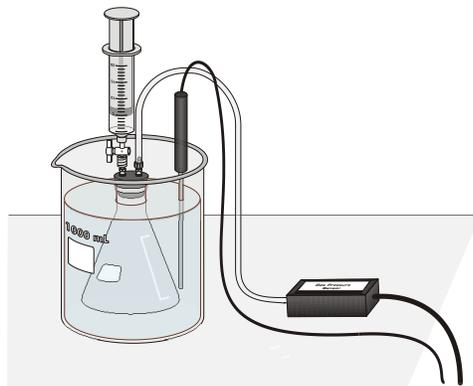

Figure 1
6. Use the clear tubing to connect the white rubber stopper to the Gas Pressure Sensor. (About one-half turn of the fittings will secure the tubing tightly.) Twist the white stopper snugly into the neck of the Erlenmeyer flask to avoid losing any of the gas that will be produced as the liquid evaporates (see Figure 1). **Important:** Open the valve on the white stopper.
9. Obtain a small amount of ethanol. Draw 3 mL of ethanol into the 20 mL syringe that is part of the Gas Pressure Sensor accessories. Thread the syringe onto the valve on the white stopper (see Figure 1).